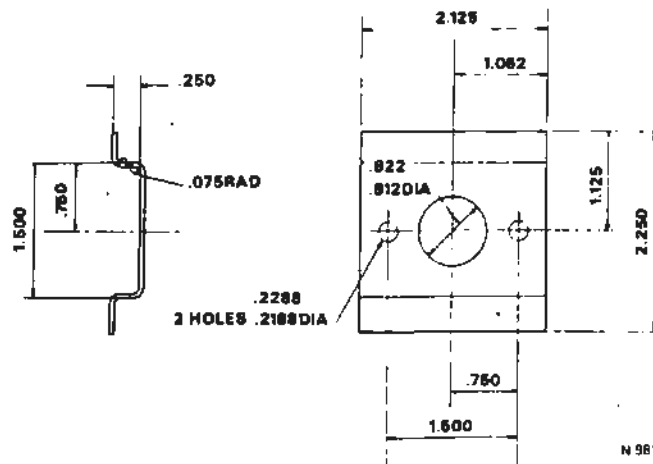

FIGURE 2.
3. Fabricate a bracket from a suitable piece of mild steel, to the dimensions given in Figure 2.